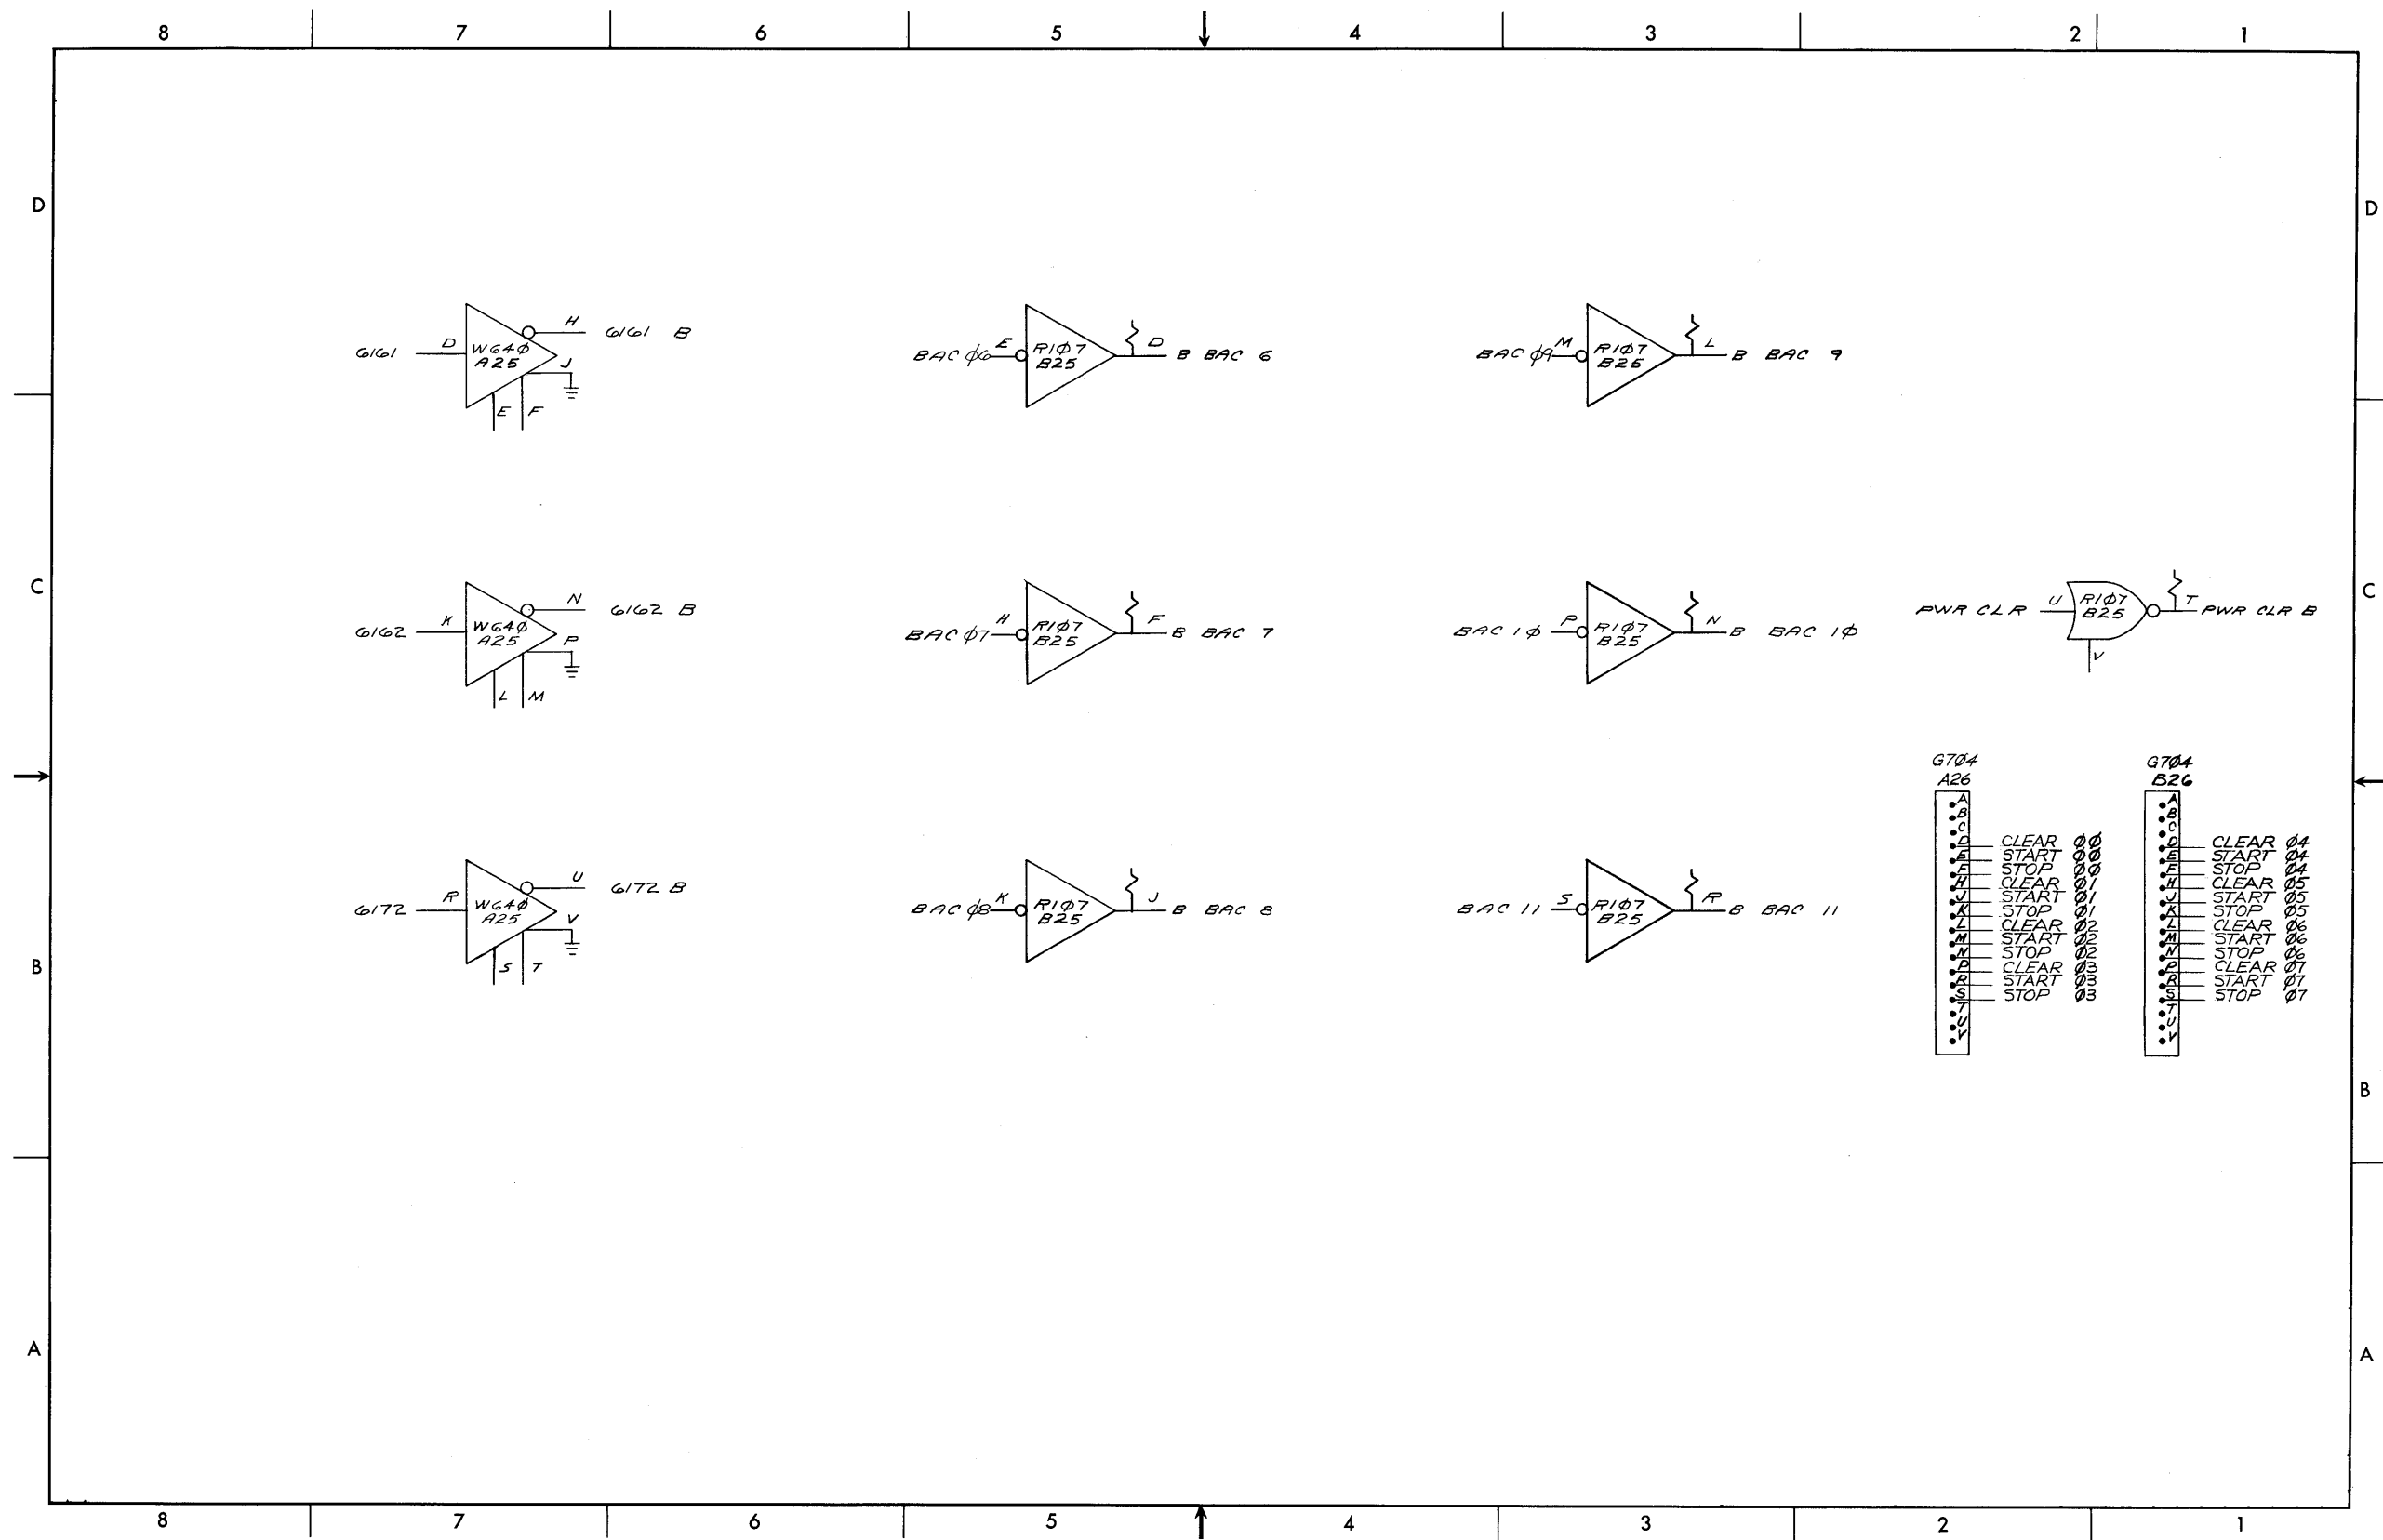

Figure 6-9 D-BS-AF17-0-2 IOT and BAC Buffer Logic Block Schematic Diagram
- Figure 6-9 IOT and BAC Buffer Logic Block Schematic Diagram (D-BS-AF17-0-2)